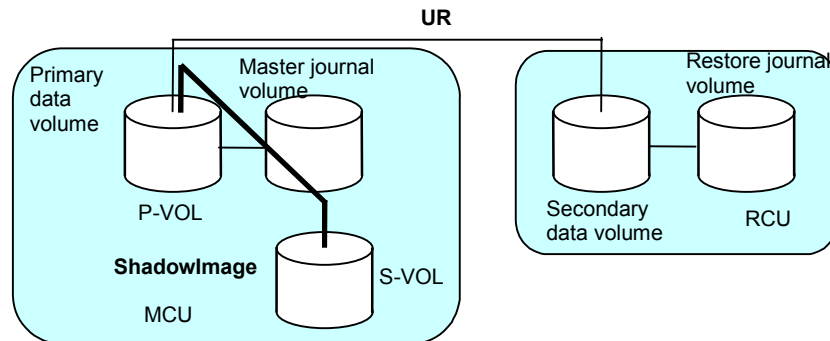
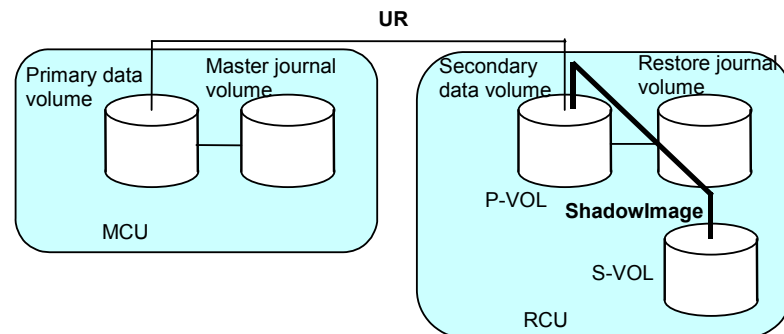
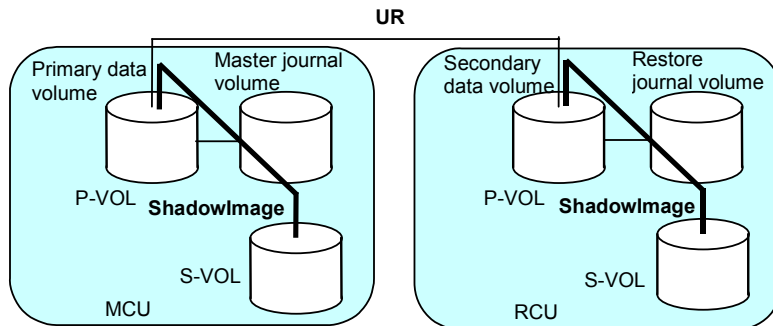
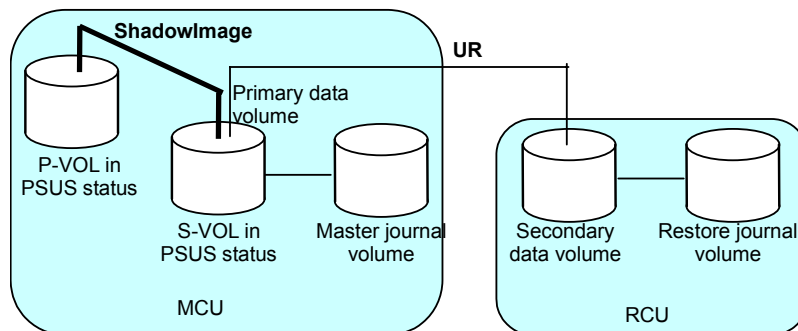

Figure 3-5 Shared UR Primary Data Volume and ShadowImage P-VOL
Figure 3-6 Shared UR Secondary Data Volume and ShadowImage P-VOL
Figure 3-7 Shared UR primary data volume and ShadowImage P-VOL, and UR secondary data volume and ShadowImage P-VOL
Figure 3-8 ShadowImage S-VOL in PSUS Status Functioning as UR Primary Data Volume
Figure 3-5 through Figure 3-8 show the various UR/ShadowImage configurations which share volumes.
Figure 3-5 shows an example of an UR primary data volume which is also functioning as a ShadowImage P-VOL. This configuration allows you to use ShadowImage for on-site data backup in case of an UR failure, and to use UR to provide remote backup of the ShadowImage P-VOL in case of a ShadowImage failure.
Figure 3-6 shows an example of an UR secondary data volume which is also functioning as a ShadowImage P-VOL. This configuration allows you to use ShadowImage to provide multiple backup copies of a single UR primary data volume.
Caution: When you share a UR secondary data volume with a ShadowImage P-VOL as shown in Figure 3-6, the write operation to the UR primary data volume takes time. Especially, when the ShadowImage pair is in the PSUS(SP) status, the write operation to the UR primary data volume may takes extra time according to the time for copying process of the ShadowImage pair.
Figure 3-7 combines the configurations shown in Figure 3-5 and Figure 3-6. Within a single UR pair, the primary data volume and secondary data volume are both functioning as ShadowImage P-VOLs, providing multiple copies at the primary and remote sites.
If a failure occurs and the ShadowImage P-VOL is damaged in Figure 3-8, take the following steps to copy data from the UR secondary data volume to the ShadowImage P-VOL so that data can be restored to the ShadowImage P-VOL: